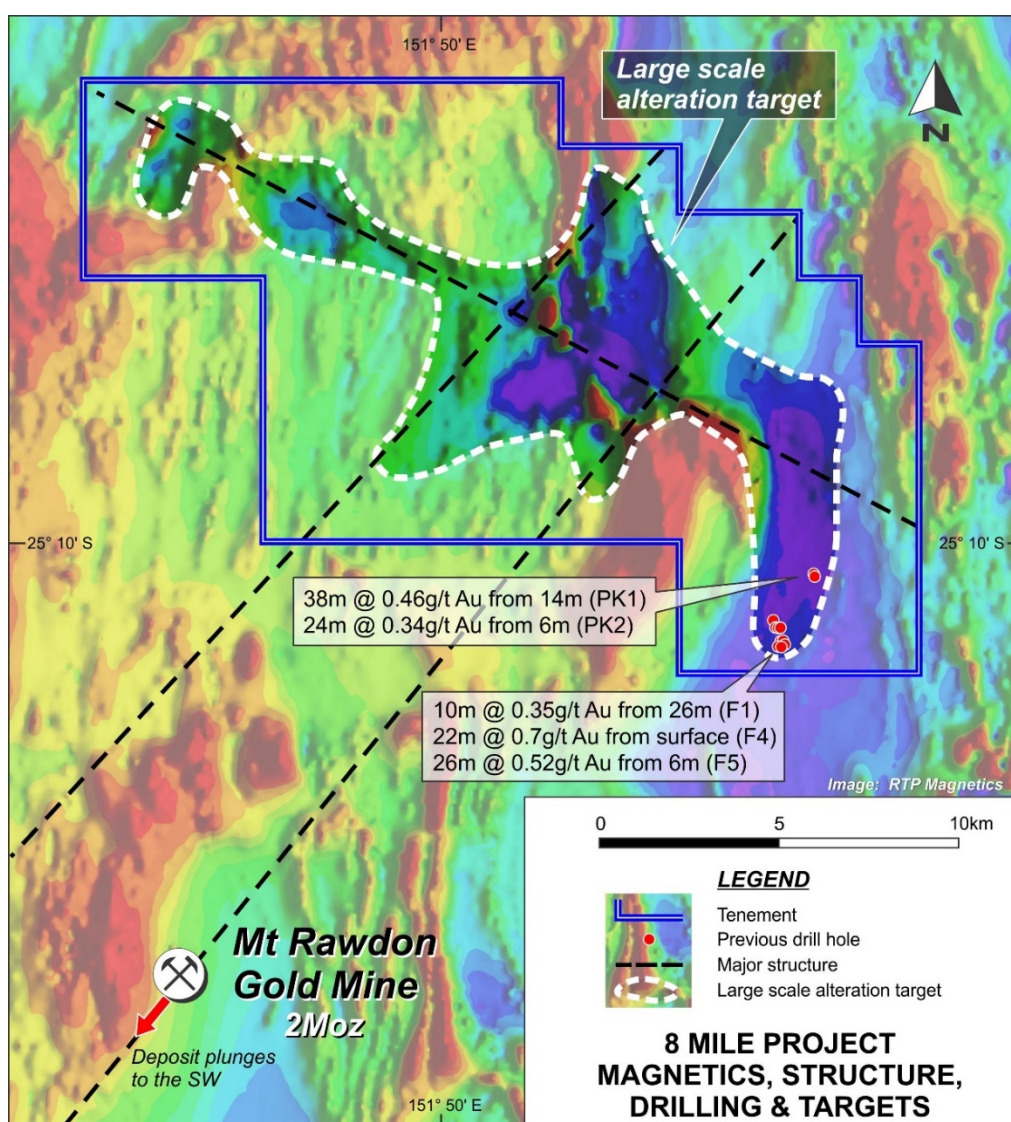

Figure 2: 8 Mile project showing interpreted alteration target on RTP magnetics image and previous drilling (Placer Exploration 1995 CR27237).
**Metal Bank Limited (ASX: MBK)** ('Metal Bank', 'MBK' or the 'Company') is pleased to have an exploration licence application (255km2) in process over an interpreted large-scale alteration system near the Mt Rawdon gold deposit in south-east Queensland, Australia. Refer to Figures 2 and 3.
Figure 3: Photo2 taken by past exploration of porphyry-style gold mineralisation near previous drilling (PK1) which intersected 38m @ 0.46g/t Au from 14m. Location shown in figure 2.